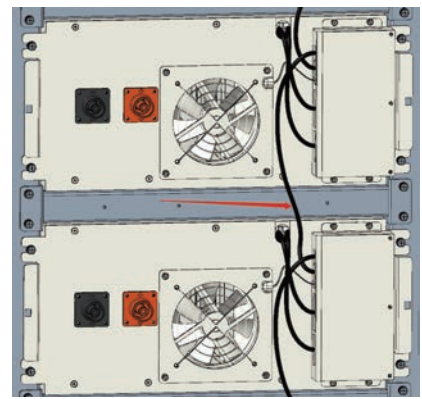

Figure 2.7
(3) It is the same for the connection between the previous BMU communication output port and the next BMU communication input port. Note: The BMU communication input port (UP_IN) at the upper end and the output port (DN_OP) at the lower end shall not be reversed. (Figure 2.7).